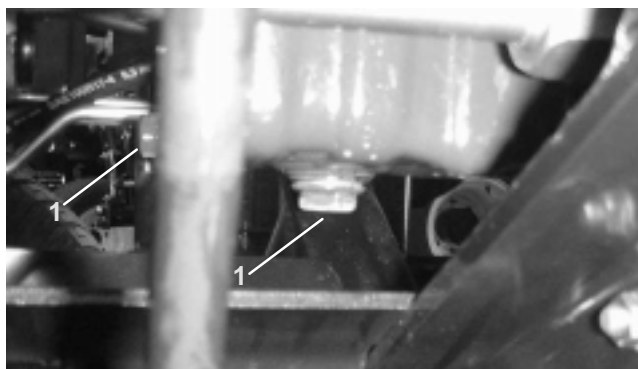

Figure 46
1. Remove drain plug (Fig. 46) and let oil flow into drain pan. When oil stops, install drain plug.